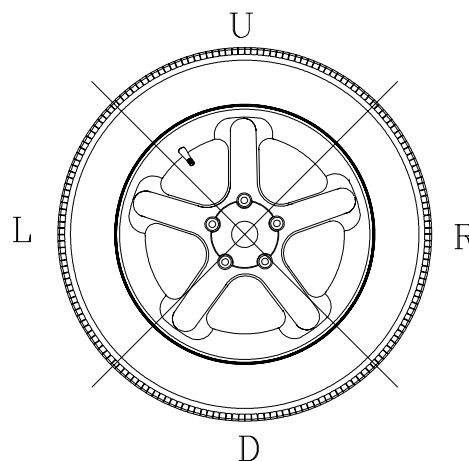

Figure 24
**C.** The wheel weight could have been placed at a wrong position. To check this, position the wheel at the correction position for the outer plane. If the wheel weight previously attached is in sector ‘L’ or ‘R’ ( Fig.24), move the wheel weight up about 1” (2.54cm).